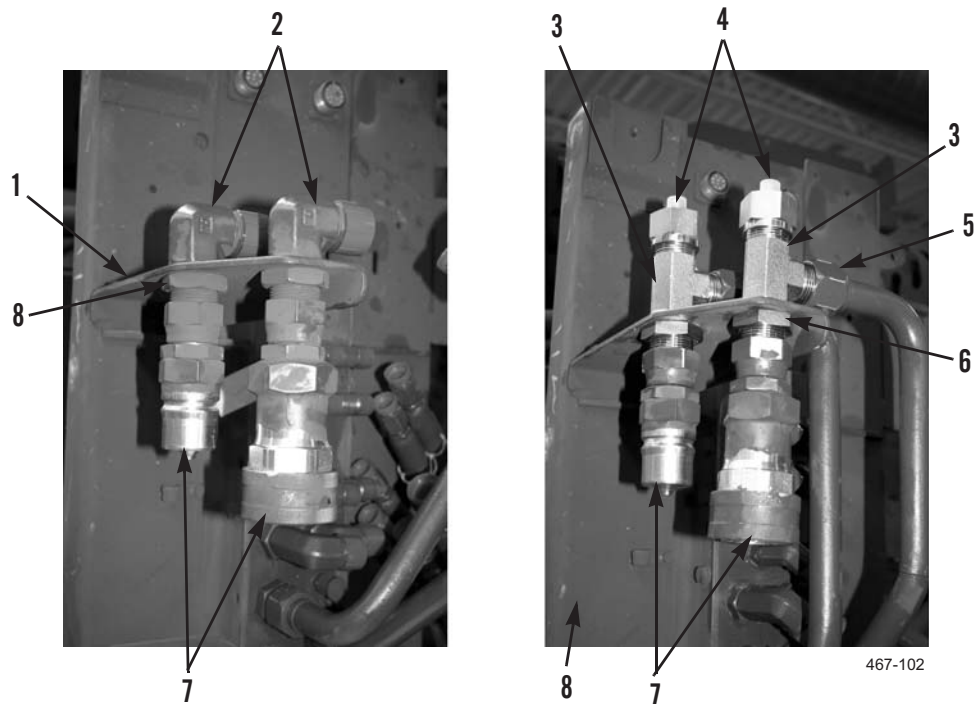

Figure 7. HEMTT Fittings Installation.
10. Install two T-fittings (Figure 7, Item 3) and jam nuts (Figure 7, Item 6) on bracket (Figure 7, Item 1).
11. Install two quick disconnect coupler fittings (Figure 7, Item 7) on T-fittings (Figure 7, Item 3).
12. Install two tube end reducers (Figure 7, Item 4) on T-fittings (Figure 7, Item 3).
13. Install two hoses (Figure 7, Item 5) on T-fittings (Figure 7, Item 3).
14. Install two hoses (Figure 7, Item 5) on control box (Figure 7, Item 8).